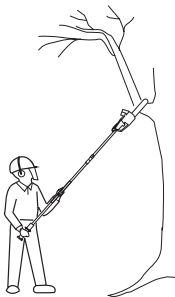

Fig. 25
1. Make sure that the guide bar cover (15) is removed, and the battery pack (29) is assembled before operation.
3. Always hold the product firmly with both hands on soft grip (7a) and rear handle (1). Never operate this product using only one hand (Fig. 25).